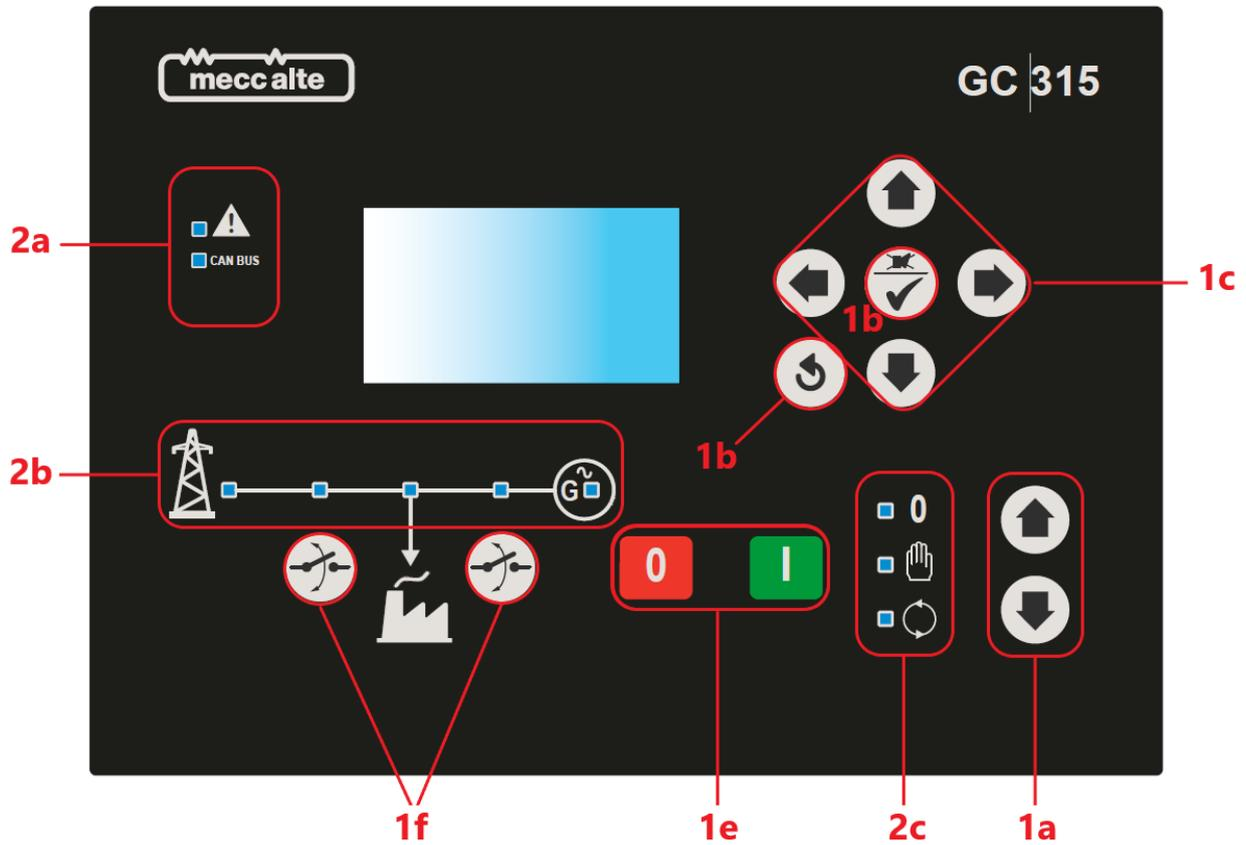

Fig. 1 – Front Panel GC315x
8.3 Selector (ref. to fig. 1)
8.4 Indicators (ref. to fig. 1 and 2)